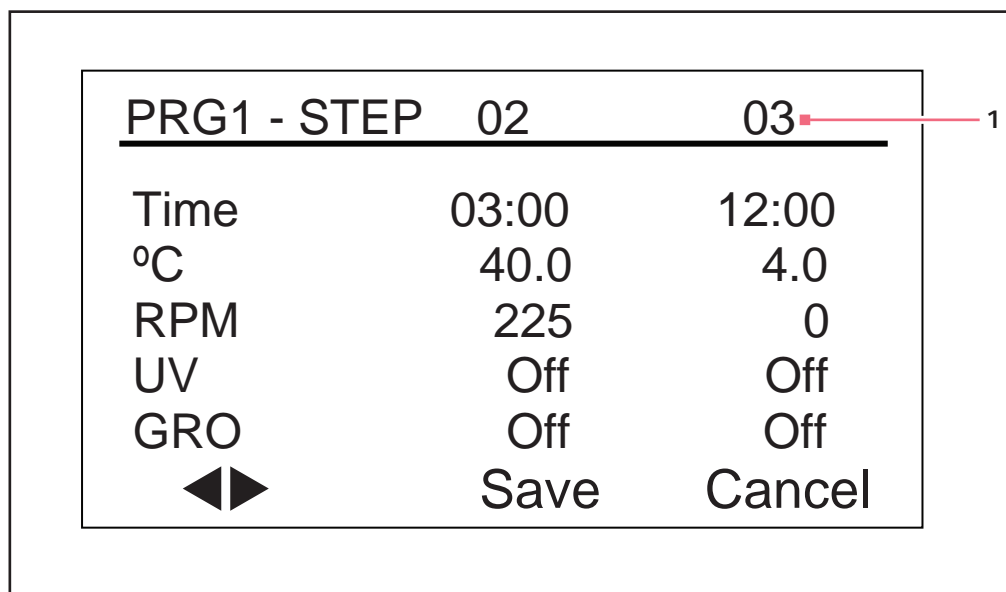

Fig. 9-13: Program 1, Step 3
12. Continue to program as many as 15 steps in the same manner. For our sample program, we have only 3 steps (see Fig. 9-13 on p. 60).